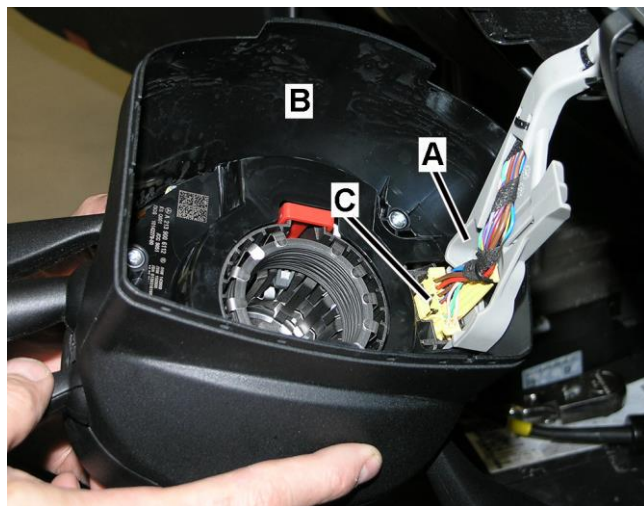
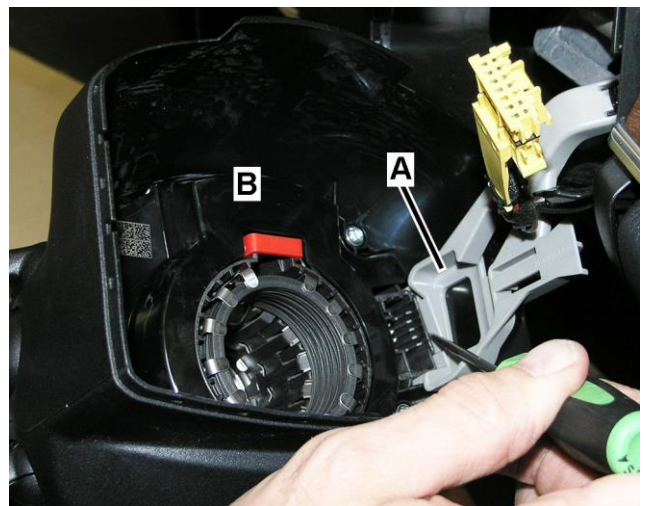

Figure 1
Figure 2
- To remove cable duct (A, Figure 1) from steering column control module housing (B): Disconnect harness connector (C) from connector socket then unclip cable duct (A, Figure 2) from inside of steering column control module housing (B) and remove.